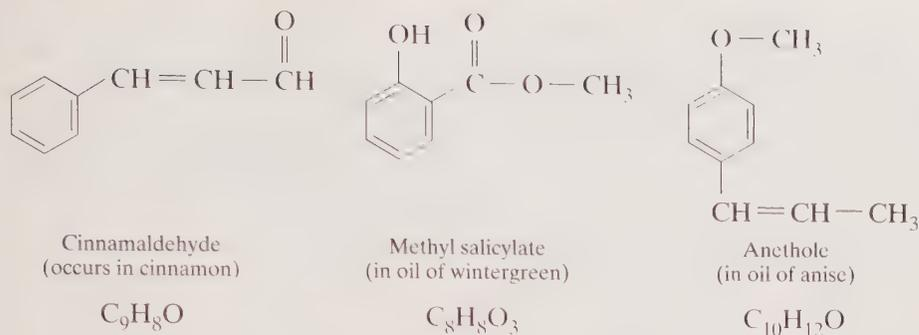

Figure 6.19 Aromatic compounds.
Among the more pleasant-smelling aromatic compounds are the organic compounds responsible for the fragrances of cinnamon (cinnamaldehyde), oil of wintergreen (methyl salicylate), and oil of anise (anethole), an oil used in the blending of perfumes and as a flavoring in foods and candies (Fig. 6.19). Though not
- the $\begin{array}{c} \text{O} \\ \parallel \\ \text{—CH} \end{array}$, $\begin{array}{c} \text{O} \\ \parallel \\ \text{—C—O—CH}_3 \end{array}$, —O—CH₃, and —OH groups of the aromatic compounds of Figure 6.19.